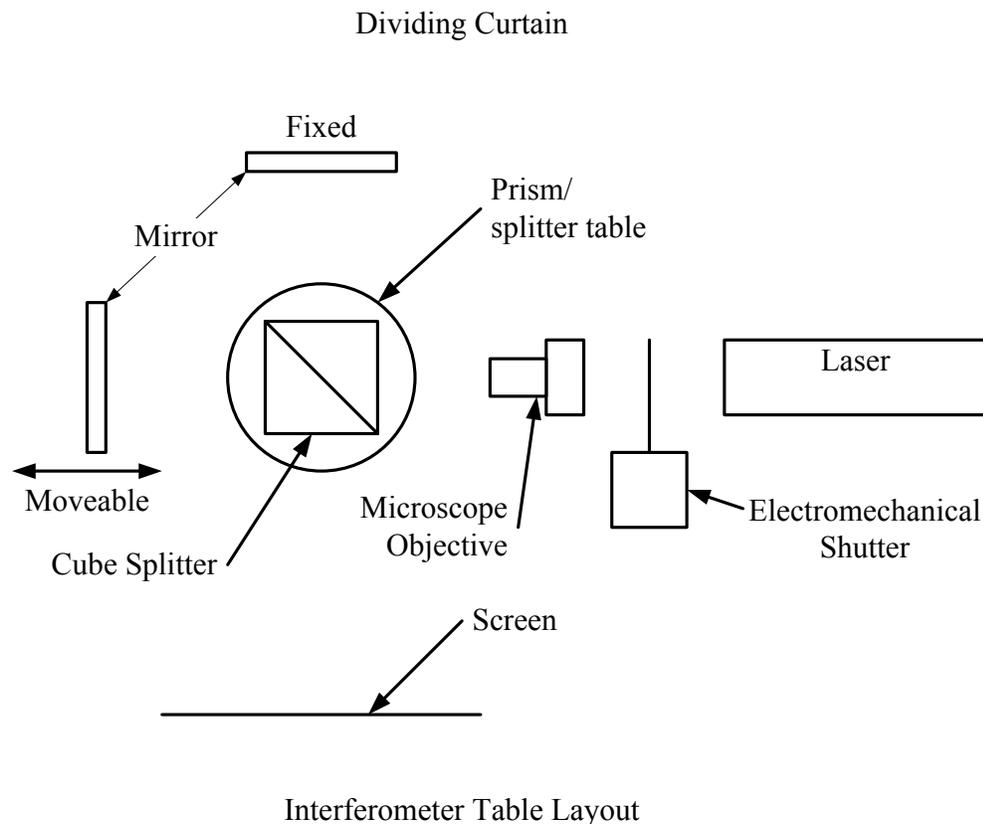

Figure 4. Interferometer layout on the optics table
Procedure: Refer to Figure 4
B. Mount the beam splitter/prism-holder accessory with the necessary hardware to the table. The beam splitter is a cube splitter which will onto a smaller table. That assembly is then mounted on the optics table. Mount the hardware on the beam line of the laser and about 15-20 centimeters beyond the shutter. See Figure 4 below.